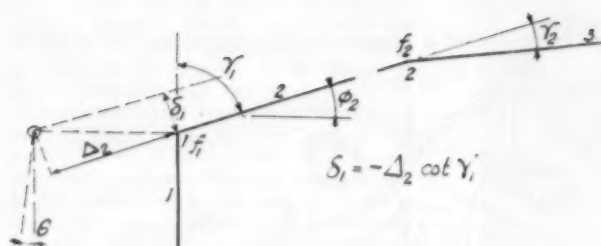

Fig. 8.
Referring to the formula before (16) the expression in square brackets in (12) for joint 1 (Fig. 8) becomes $+6E_c[-\Delta_2 \cot \gamma_1 - \delta_2^2]$